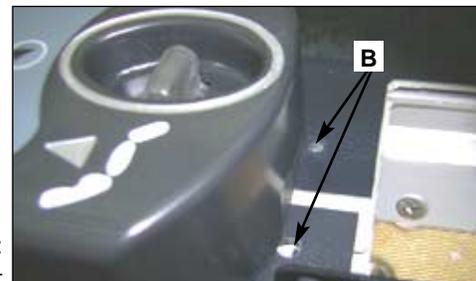

FIG. 305A:
- (2) Raise the fwd part of the handset cradle and remove two screws (B) that attach control panel assy on the upper endbay (see fig. 305A).